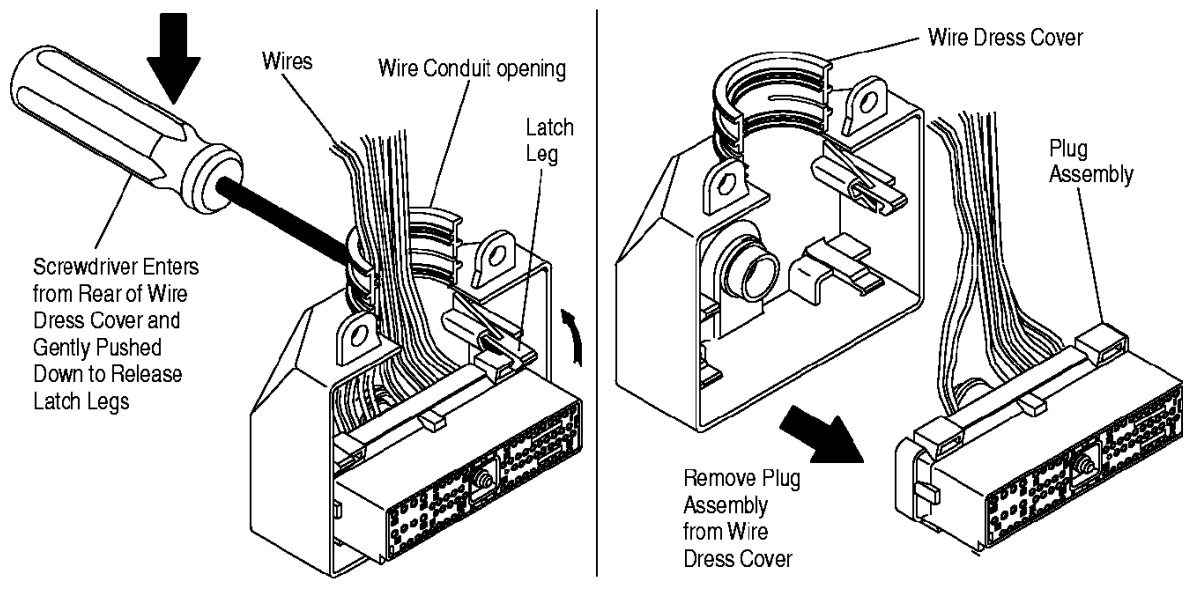

Figure 5
Refer to Figure 5 and proceed as follows:
2. Cut the wire tie around the conduit, and release the four latch legs going into the plug assembly. See Figure 5.